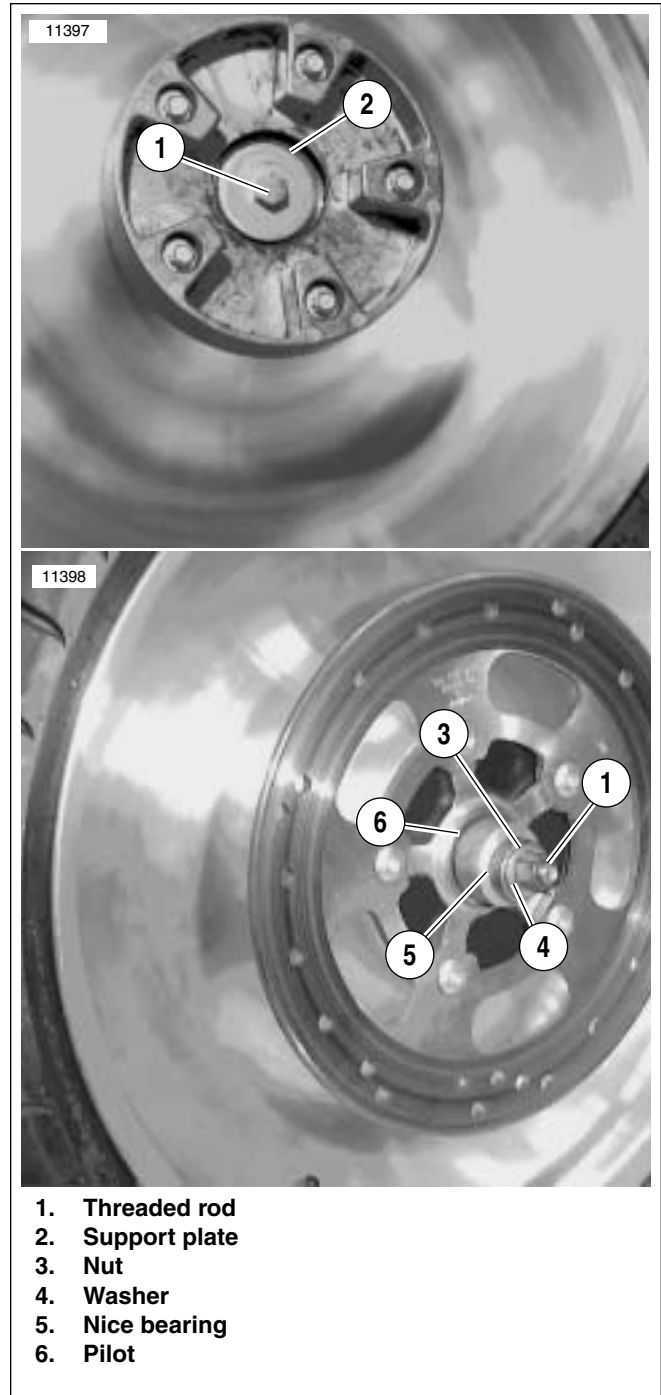

Figure 2-89. Installing Wheel Bearing (typical)
- b. See Figure 2-89. Place threaded rod (1) through support plate (2).
- d. Place the **new** bearing on threaded rod (1) with lettered side outward.
- e. Install pilot (6), Nice bearing (5), washer (4) and nut (3) over rod.
2. Hold hex end of threaded rod (1) and turn nut (3) to install bearing. Bearing will be fully seated when nut can no longer be turned. Remove tool.